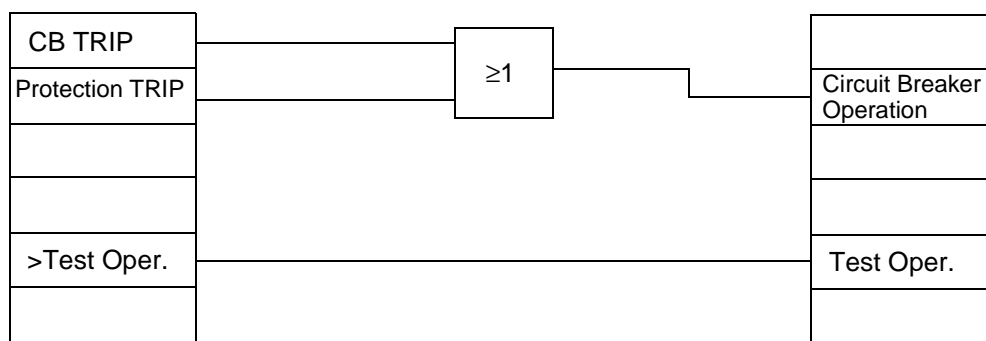

Figure 5-44 Additional logic as an example for a PLC_1 event-driven logic condition
By using slow PLC processing, an additional, event-driven logic condition may be constructed which delivers indications regarding switch-gear operating status. These indications may be passed externally via LEDs or relay contacts, or used as input signals for further logical links. In the example (see Figure 5-44), the output information indication from the circuit breaker interlocking logic (CB TRIP) and a joint indication from all protective element trip signals (Protection TRIP) are linked to a new "Circuit Breaker Operation" message. Furthermore, the single point indication (SP) **Test Oper**, which may be coupled via a binary input, is linked with an internal reusable "Test oper." message.